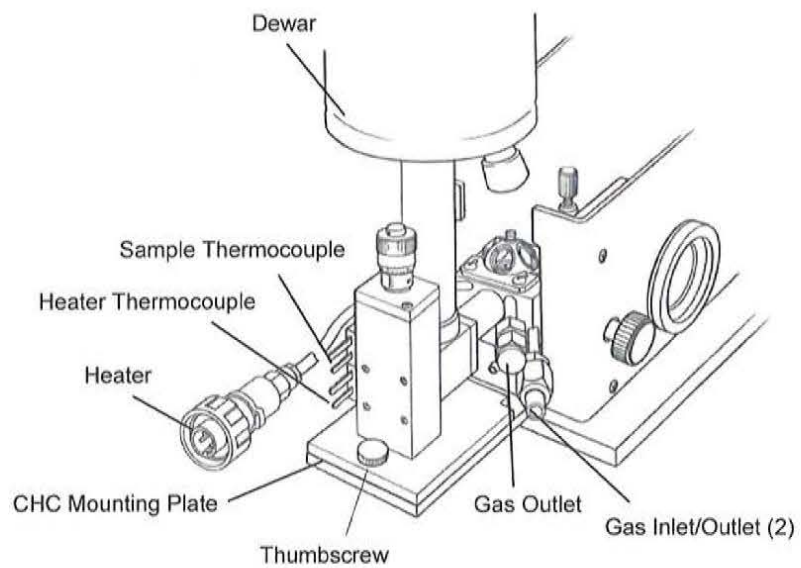

Figure 21 • The CHC installed
- Fasten the thumbscrew (Figure 21) to secure the CHC to the CHC mounting plate.
- If temperature control is desired, connect the thermocouple and the heater (Figure 21) to a suitable temperature controller.
- Place a sample screen into the sample cup and locate the plastic overflow tray over the sample cup (Figure 21).